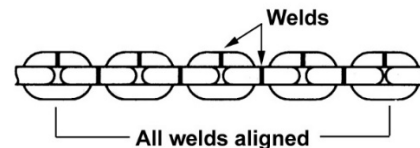
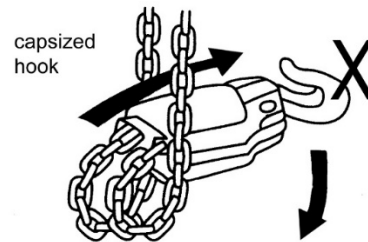

Figure 11-1
Figure 11-2
Check that chain does not twist along its length from hoist to hook (Figure 11-1). If twist is present on units with multiple falls, the hook has been capsized; it must be passed back through the chain loop to remove all twist in the chain. See Figure 11-2.
6. Check that chain is not twisted at bottom hook. All welds should face same direction (see Figure 11-1). For hoists with two or more falls of chain, make sure bottom hook is not capsized. This may cause the chain to twist.